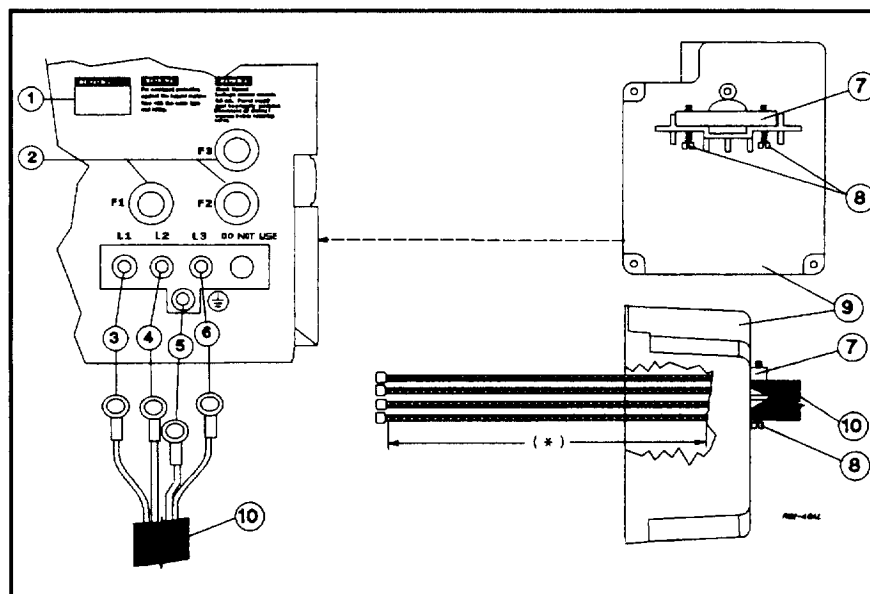

Figure 2-5. Connecting the Series 668xA Power Cord
See Figure 2-5 and proceed as follows:
1. Check the line fuses (**2**), Figure 2-5) as follows: